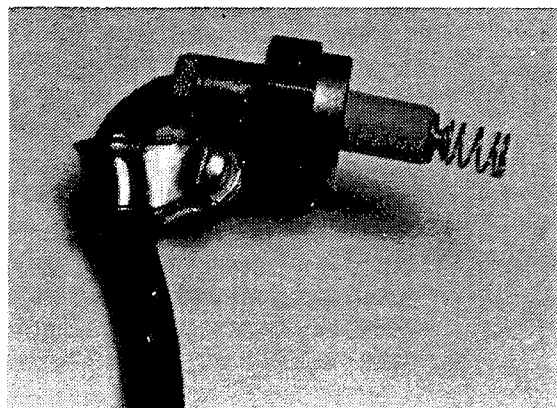

FIGURE 74-00-04B. INSTALLATION OF ELBOW CLAMP.
D. If elbow assemblies are not used and installation results in a severe angle where conduit connects to the spark plug, use clamp P/N 10-320283 as shown in Figure 74-00-04B, "Installation of Elbow Clamp". Secure clamp with screw and lockwasher P/N 10-35936-6 and nut P/N 10-90404-4. The clamp will maintain a 70° elbow eliminating over-stressing the lead.